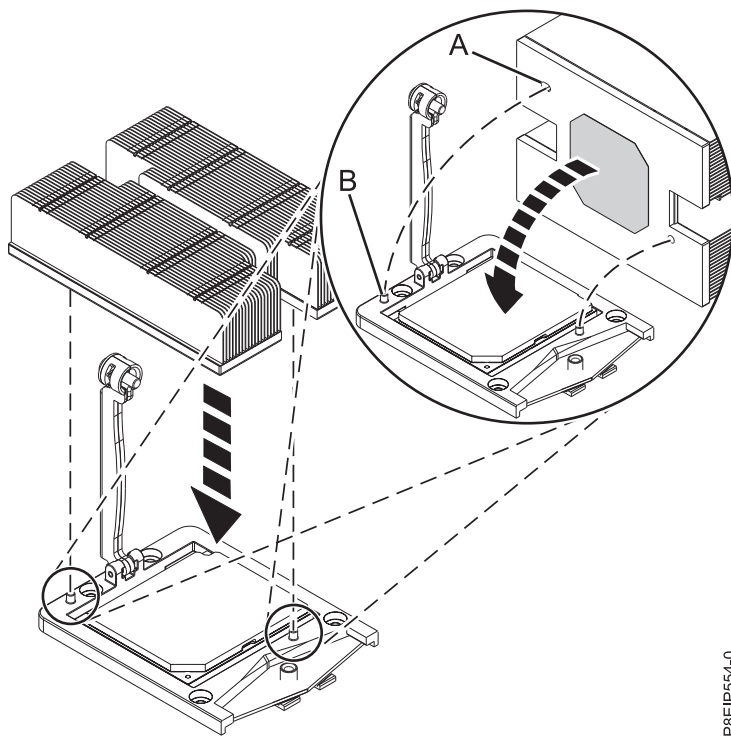

Figure 55. Installing the heat sink
10. Move the processor heat sink to the processor. Carefully lower the heat sink over the system processor module, ensuring that the holes in the heat sink (A) align with the two guide pins (B) on the socket, as shown in Figure 55.